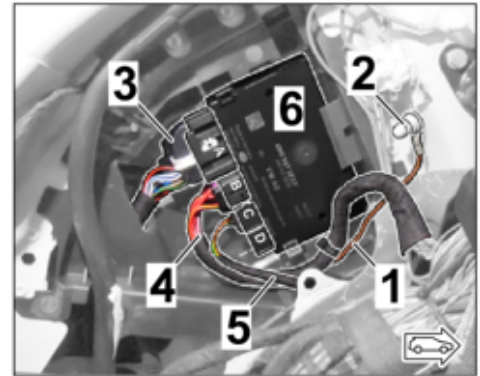

Figure 14
- 2.5 Install cable ring eyelet A6 at the ground pin MB25 (⇒ *Figure 14 -2-*).
- 2.6 Connect plug connections for connector A/B/C to the trailer hitch control unit (⇒ *Figure 14*).